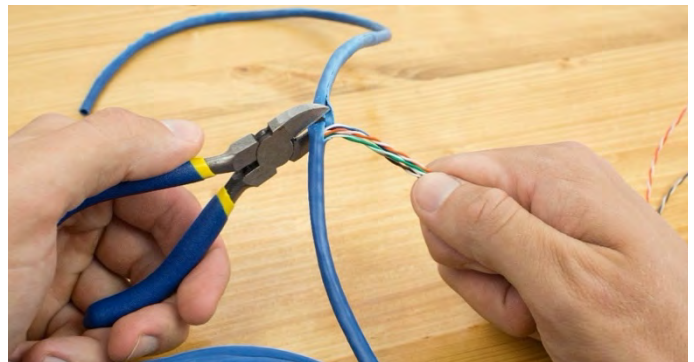

Figure 10
- ❑ Use scissors or diagonal cutting pliers to trim away the outer covering ONLY, being very careful not to nick or cut any of the colored wires. (Figure 10)